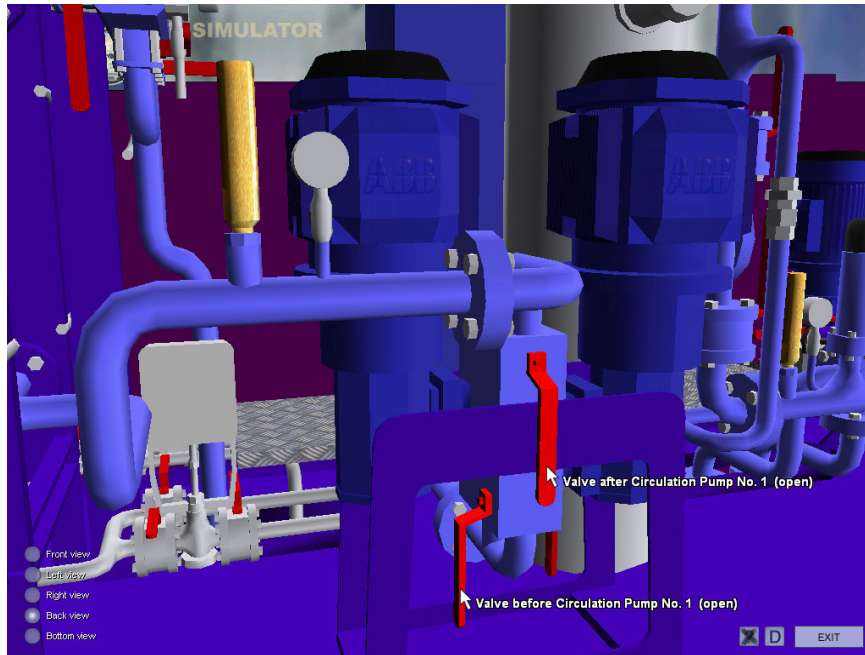

Fig. 18. Back view - Circulating pumps with valves
5. Open valves before and after the Circulating pump No. 2 (fig. 18).